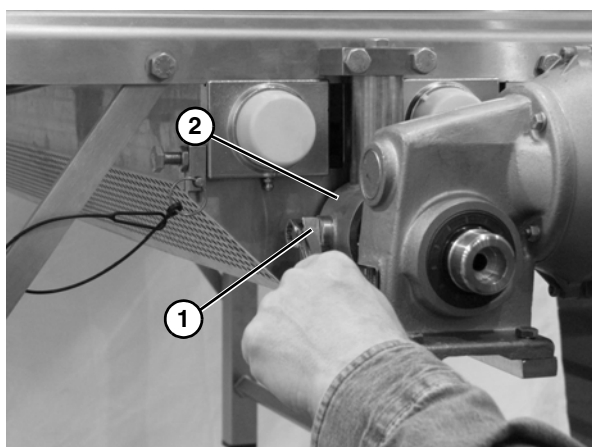

Figure 59
7. Remove the bent bars (Figure 59, item 1) from the motor mounting bracket (Figure 59, item 2).